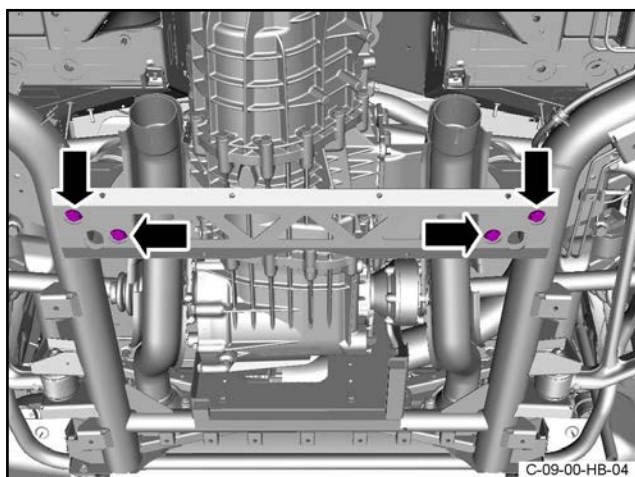

Figure 4
4. Hold the cross brace (refer to Figure 4).